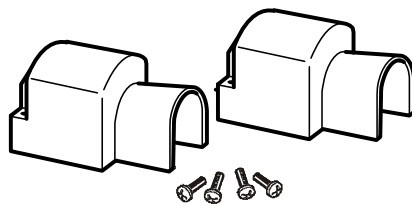

Figure 8 DC Terminal Covers
9. Attach the DC terminal covers using the screws provided to protect the DC terminals, as shown in Figure 8.